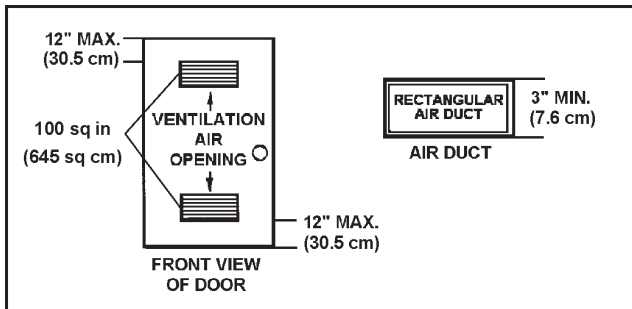

FIGURE 11.
**A. ALL AIR FROM INSIDE BUILDINGS:** (See Figure 11 and 12)